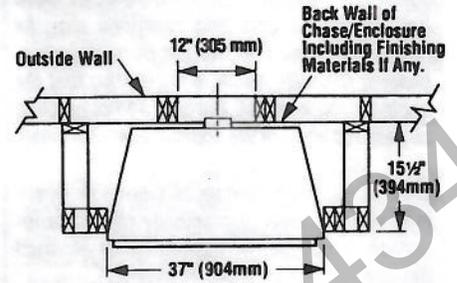

Figure 4
Step 1. Frame appliance enclosure as illustrated in *Figures 4 through 6*.